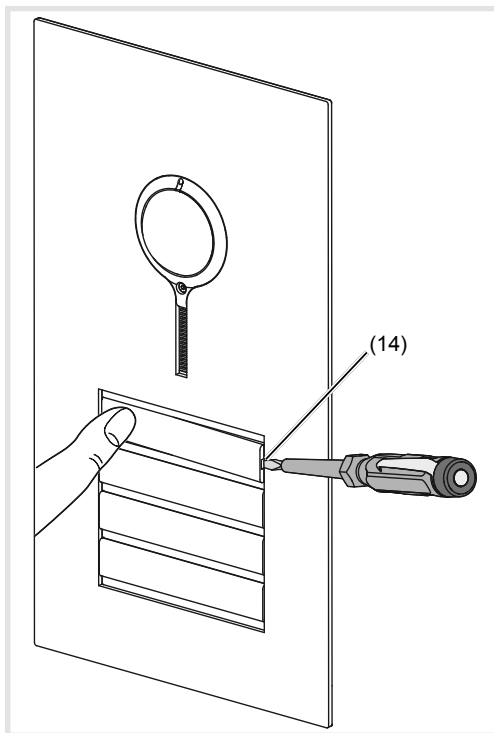

Figure 3: Removing name plate cover
- Keep call push-button pressed on one side. On the opposite side, the lever opening (14) is accessible for a screwdriver.
- Position the screwdriver in the lever opening (14) and release the interlock (Figure 3).